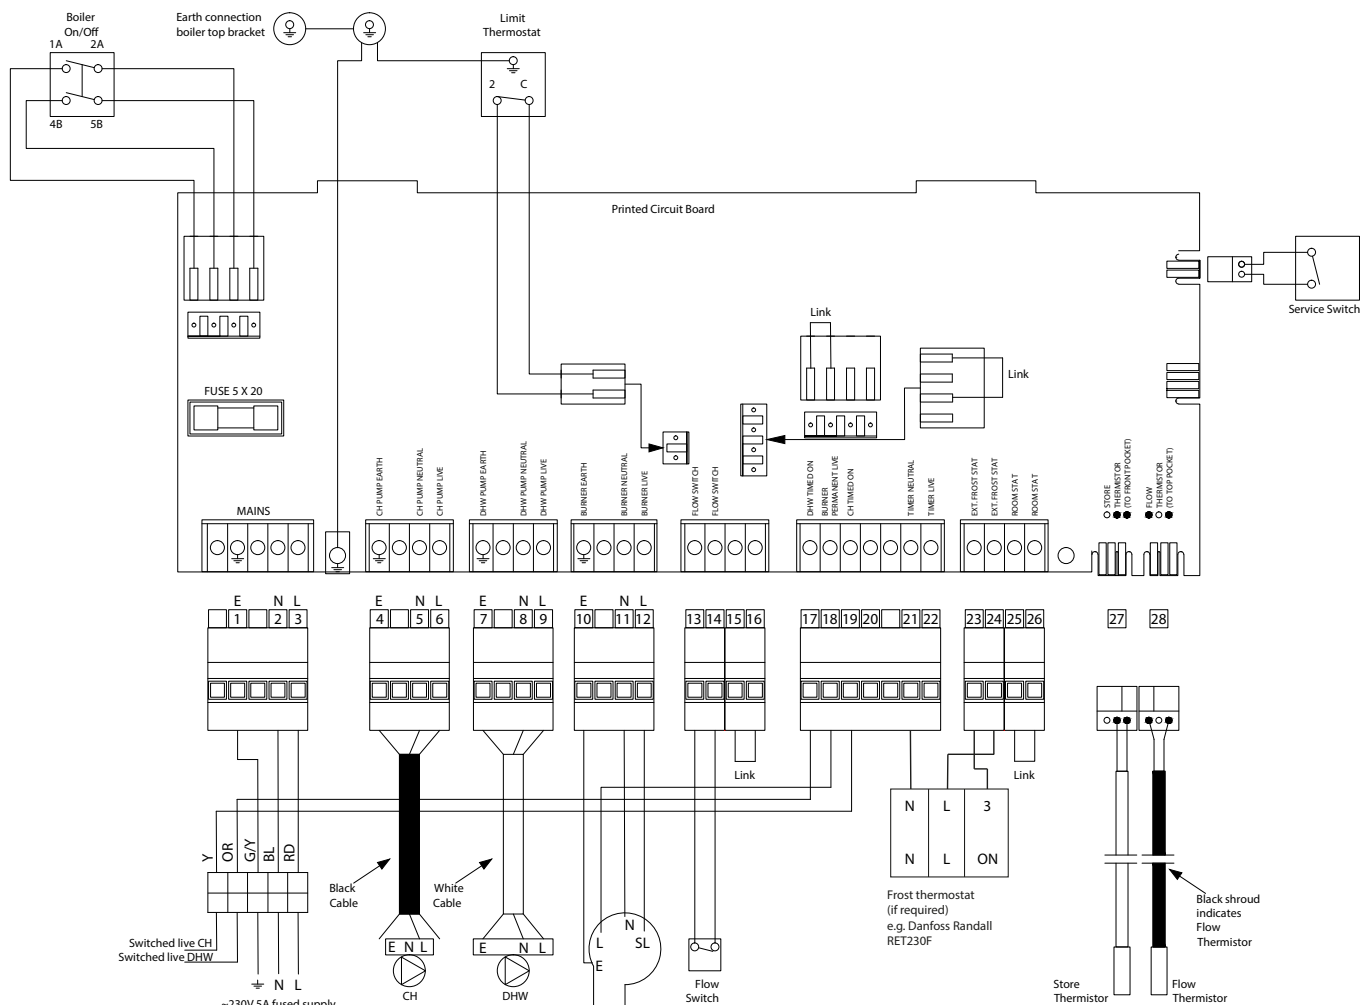

Figure 8-1: Boiler Wiring Diagram
Refer to Figure 8-1 for the control panel wiring diagram for all VortexBlue External combi models.
- Frost thermostat Neutral (N) to terminal 21 on PCB connector.
- Frost thermostat Live (L) to terminal 24 on PCB connector.
- Frost thermostat Switched Live-ON (3) to terminal 23 on PCB connector.
6. Refer to Figure 8-1 for typical connection of Remote Frost Thermostat.